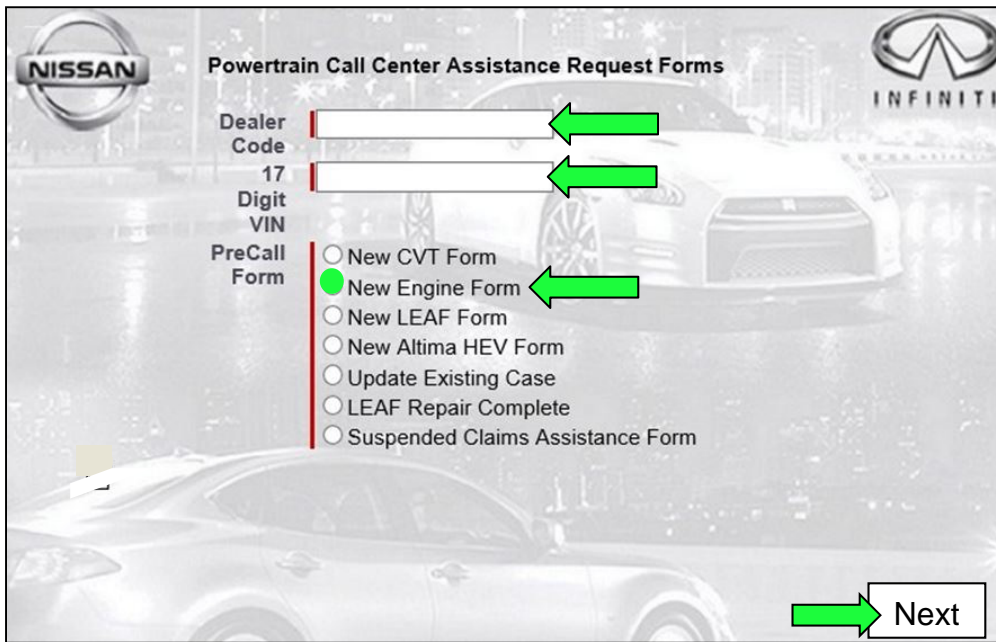

Figure 2
13. Complete the PCC Assistance Request Form in ASIST (Figure 2).